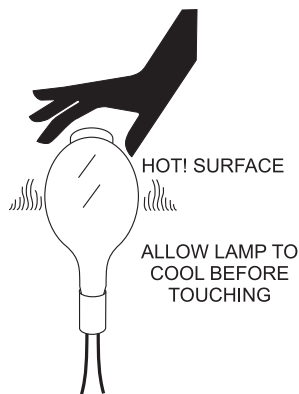

Figure 17. Hot Lamp Surface
1. Allow lamp (Figure 17) 15-20 minutes to cool before changing.